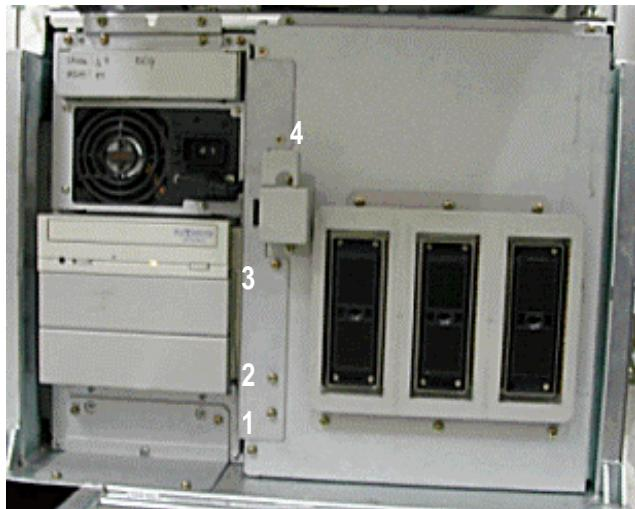

Figure 8-79 Unscrew 4 screws to remove EMC BRKT
- 3.) Unscrew four (4) screws (1-4) to remove the EMC Bracket. Refer to Figure 8-79.